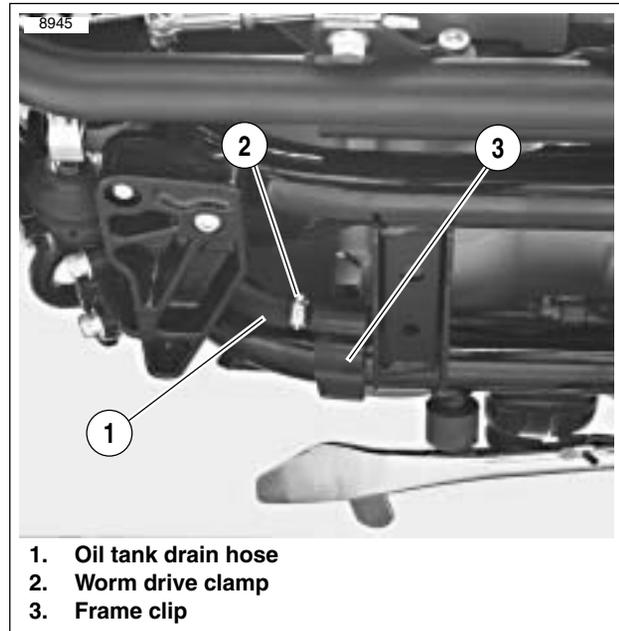

Figure 1-4. Oil Tank Drain Hose
3. See Figure 1-4. Locate the oil tank drain hose (1). The drain hose is secured with a worm drive clamp (2) to a plug on a frame clip (3).